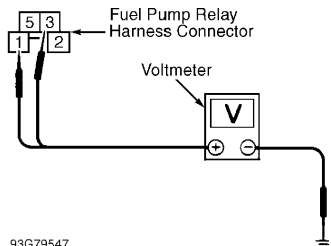

Fig. 12: Testing Fuel Pump System (Altima)
2) Turn ignition off. Disconnect fuel pump relay. Fuel pump relay is located in relay box next to battery. Turn ignition on. Measure voltage between ground and fuel pump relay harness connector terminals No. 1 (Blue/Black wire) and No. 3 (Blue/Black wire). See Fig. 12. Battery voltage should be present. If battery voltage is present, go to next step. If battery voltage is not present, check 15-amp fuse in main fuse box. Check harness continuity between fuse and fuel pump relay. Repair or replace as necessary.
2) Turn ignition off. Disconnect fuel pump relay. Fuel pump relay is located in relay box next to battery. Turn ignition on. Measure voltage between ground and fuel pump relay harness connector terminals No. 2 (Brown wire) and No. 3 (Brown wire). For connector identification, see Fig. 12. Battery voltage should be present. If battery voltage is present, go to next step. If battery voltage is not present, check 15-amp fuse in main fuse box. Check harness continuity between fuse and fuel pump relay. Repair or replace as necessary.
2) Turn ignition off. Disconnect fuel pump relay. Fuel pump relay is located in relay box on right front inner fender panel. Turn ignition on. Measure voltage between ground and fuel pump relay harness connector terminals No. 2 (Black/White wire) and No. 3 (Black/White wire). For connector identification, see Fig. 12. Battery voltage should be present. If battery voltage is present, go to next step. If battery voltage is not present, check 10-amp fuse in main fuse box. Check harness continuity between fuse and fuel pump relay. Repair or replace as necessary.
3) Turn ignition off. Disconnect fuel pump relay. Fuel pump relay is located in relay box in front of battery. Turn ignition on. Measure voltage between ground and fuel pump relay harness connector terminals No. 1 (Black/Red wire) and No. 3 (Black/Red wire). For connector identification, see Fig. 12. Battery voltage should be present. If battery voltage is present, go to next step. If battery voltage is not present, check 15-amp fuse in main fuse box. Check harness continuity between fuse and fuel pump relay. Repair or replace as necessary.